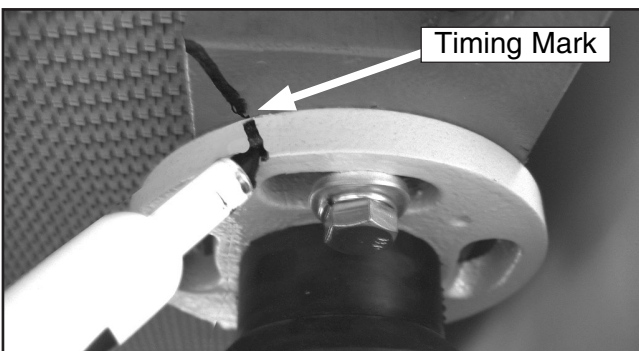

Figure 36. Marking lead screw for reassembly.
6. Using a permanent marker, mark all four lead screw flange positions (**Figure 36**), and remove all hex bolts from the flanges.